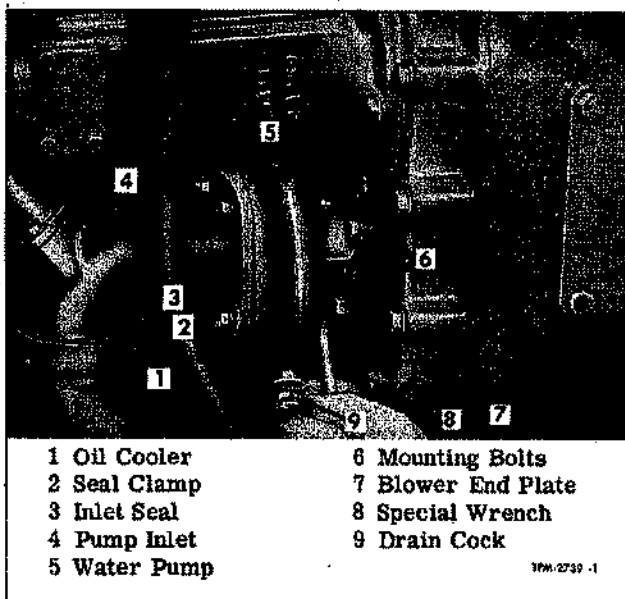

Figure 3—Water Pump Mounting and Use of Special Wrench
2. Loosen clamp (9); then slip inlet seal (5) down on oil cooler neck.
3. Remove two cap screws (8) and loosen flange (1) which holds pump outlet to cylinder block. Move flange and packing towards pump body.
4. Remove cap screws (7) which holds pump to blower. The inner cap screw can be removed by using a special wrench as shown in figure 3.